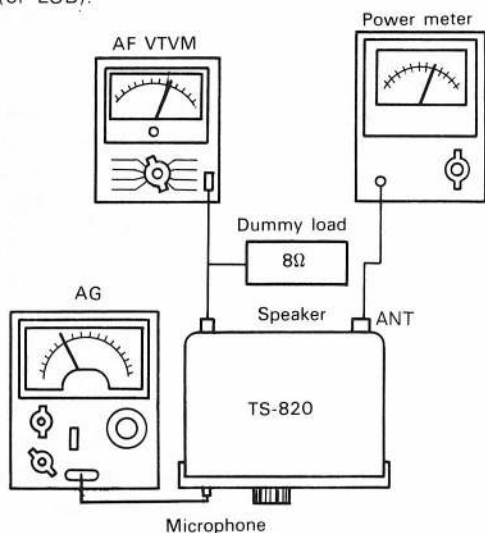

Fig. 38 Adjustment of monitor level
- 1) If Fig. 38, make adjustment until full power is obtained at 14.175 MHz, CW, and set the MODE switch to SSB $\dot{\bar{e}}$ (or LSB).